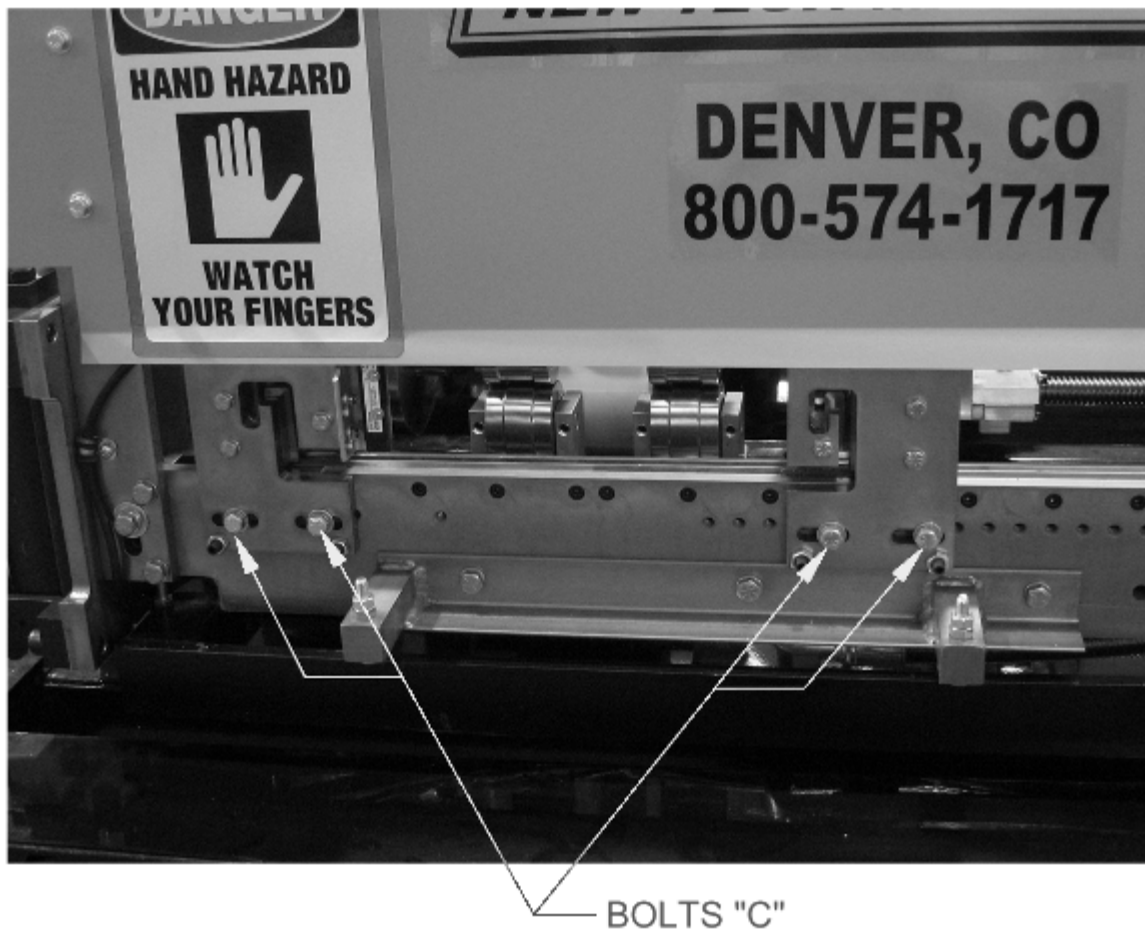

Figure 35: Shear Bolts
20. Remove the two “C” bolts located in the slotted holes at the bottom edge of the exit male shear die assembly and set the bolts and assembly aside. (Figure 35)